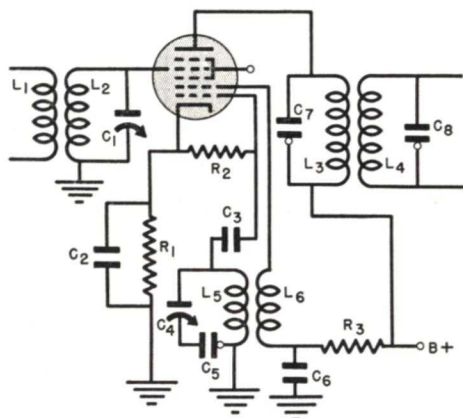

FIG. 2. The standard pentagrid-converter, functioning as a mixer-oscillator.
► A typical pentagrid-converter tube circuit is shown in Fig. 2. If this circuit refuses to oscillate at the low-frequency end of the dial, the trouble may be due to high-